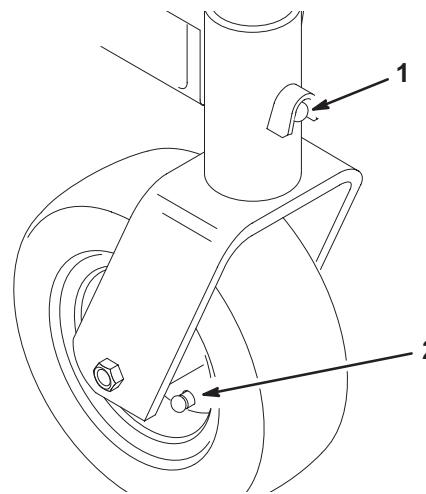

Figure 25
- Grease the fittings on the carrier frame mounting tubes and castor wheels (Fig. 25).